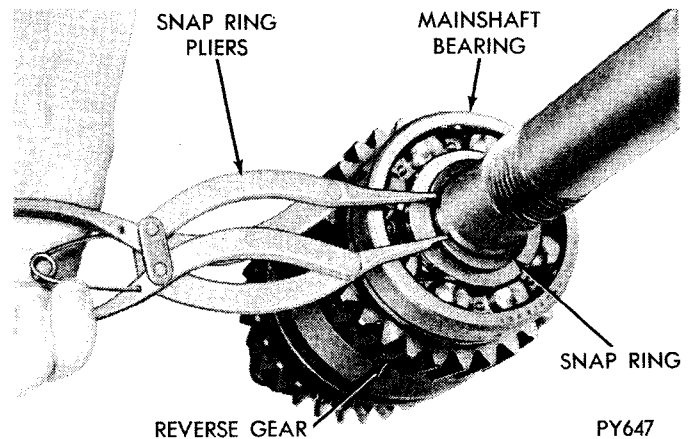

Fig. 19—Removal or Installation—Mainshaft Bearing-to-Snap Ring
(5) Remove snap ring securing bearing to mainshaft (Fig. 19).
(19) Install bearing retaining snap ring on mainshaft (Fig. 19).
(20) Spread snap ring in mainshaft bearing re-